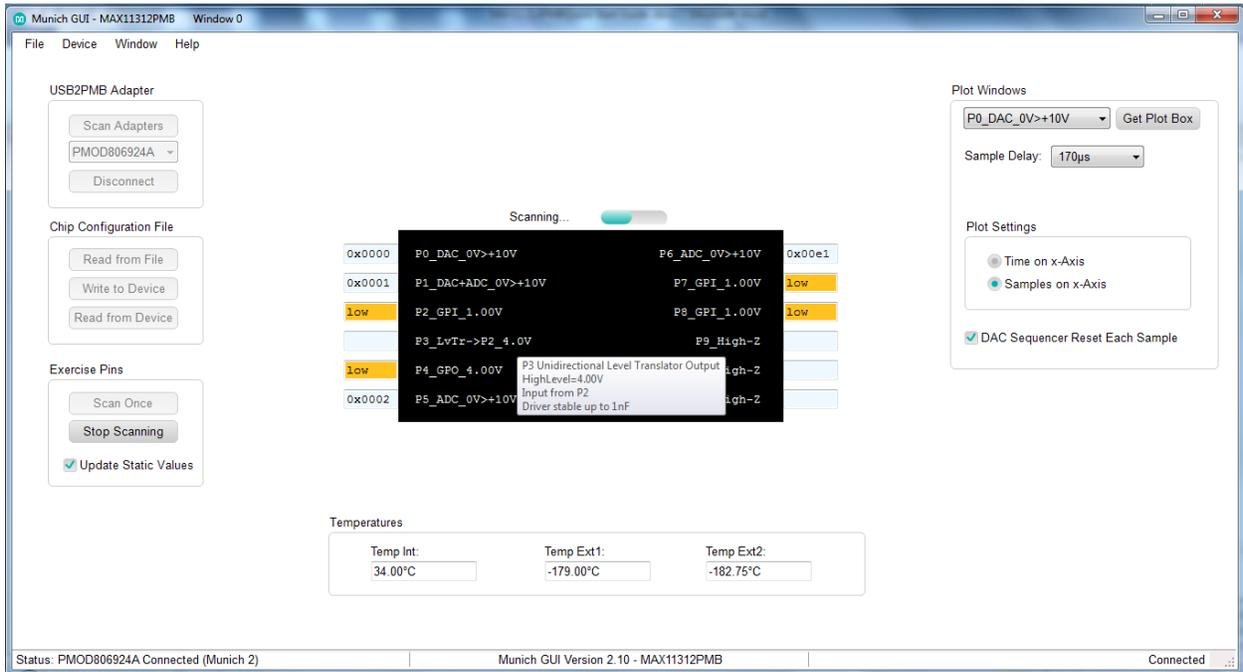
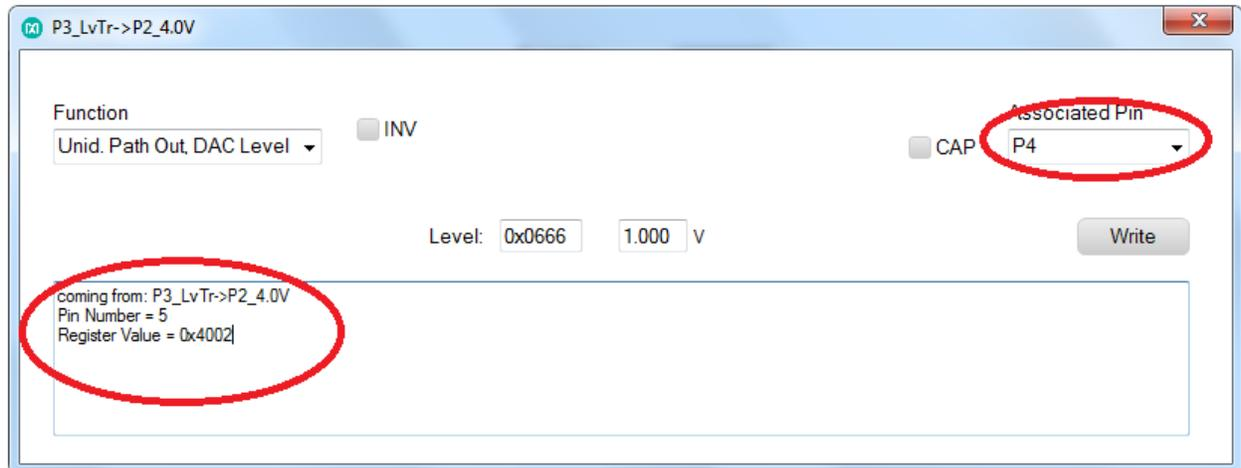

Figure 32. Click on Output of level translator.
Figure 33. Pin description of P3.
3. Click **P3\_LvTr->P4\_4.0V** as shown in **Figure 32** below, a separate window of pin description for Pin3 pops up as shown in **Figure 33**, under the associated pin tap, choose P4 (this is due to the limitation of GUI). The real pin number is listed on the pin description.